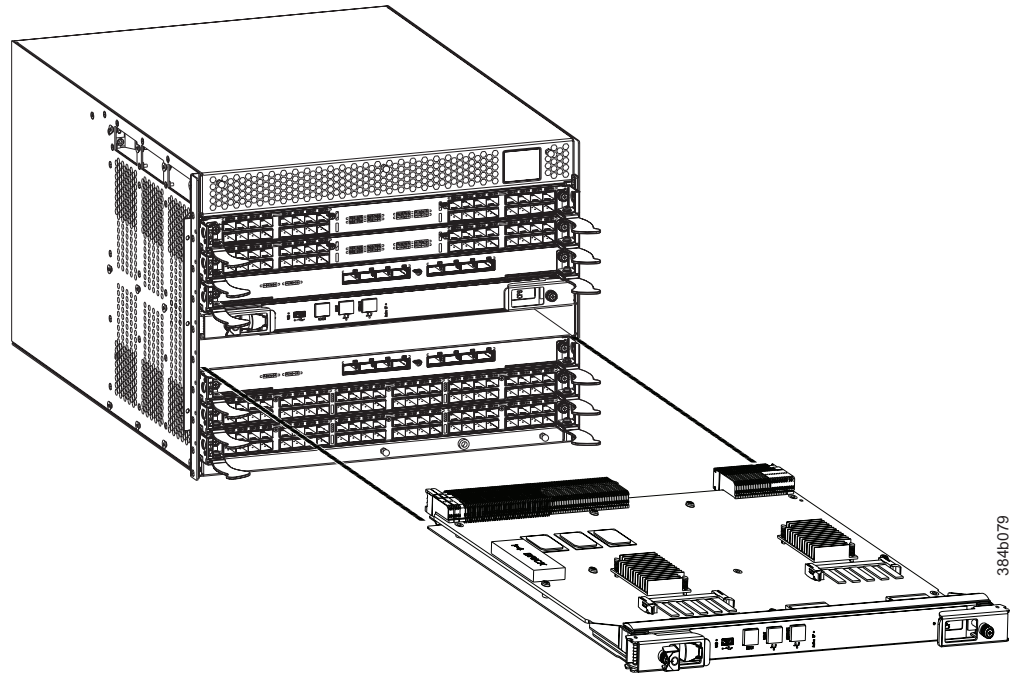

Figure 35. Removing the control processor (CP8) blade
8. Lever open both ejector handles simultaneously to approximately 45 degrees and pull the CP blade out of the chassis (see Figure 35 on page 77).